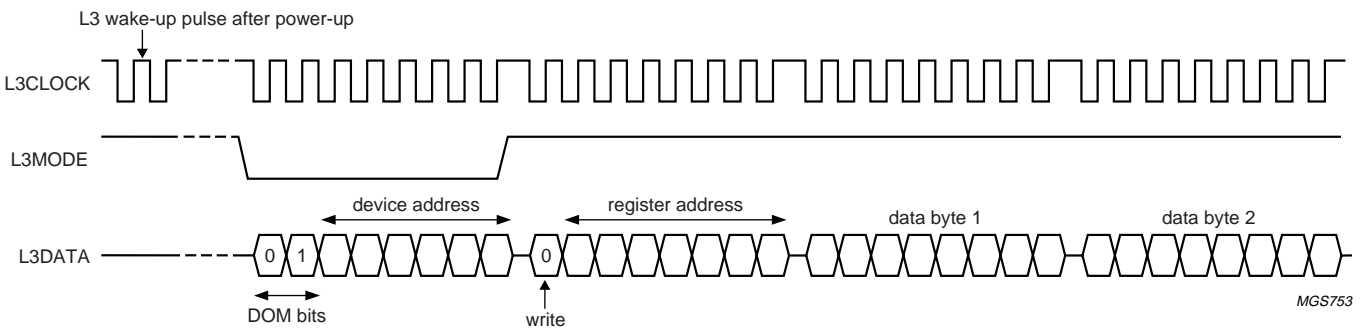

Fig.5 Data write mode (for L3 version 2).
The address mode is used to select a device for a subsequent data transfer. The address mode is characterized by L3MODE being LOW and a burst of 8 pulses on L3CLOCK, accompanied by eight bits (see Fig.5). The data transfer mode is characterized by L3MODE being HIGH and is used to transfer one or more bytes representing a register address, instruction or data.
**Remark:** when the device is powered up, at least one L3CLOCK pulse must be given to the L3 interface to wake up the interface before starting sending to the device, see Fig.5. This is only needed once after the device is powered up.
1. Addressing for write data: bit 0 is logic 0 indicating a write action to the destination register, followed by bits 1 to 7 indicating the register address (see Fig.5)
The data write mode is explained in the signal diagram of Fig.5. For writing data to a device, four bytes must be sent (see Table 6):